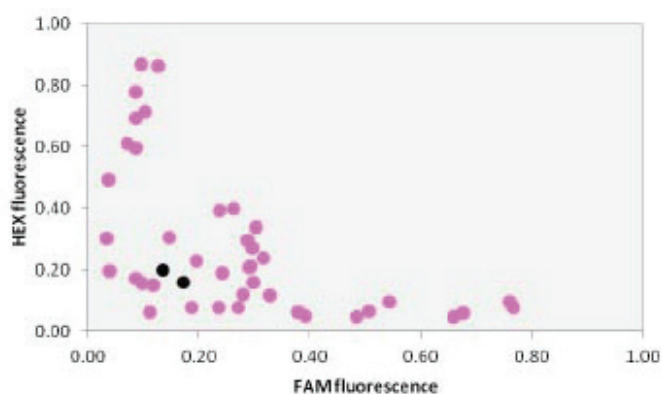

Figure 3.1. Genotyping data points move more slowly than expected away from the plot origin, and do not form distinct genotyping clusters.
**Plot characteristics:** genotyping clusters move more slowly than expected away from the origin. Data points do not resolve into separate clusters (Figure 3.1).